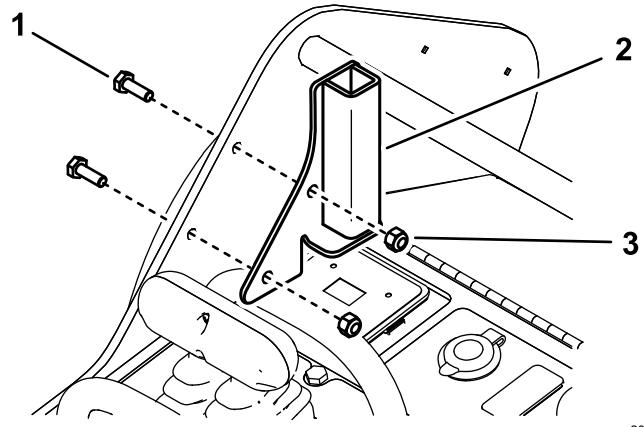

Figure 7
3. Install the left shield bracket on the left frame using 2 bolts (1/4 x 3/4 inch) and 2 locknuts (1/4 inch) as shown in Figure 7.
4. Install the right shield bracket on the right frame using 2 bolts (1/4 x 3/4 inch) and 2 locknuts (1/4 inch), similar to Figure 7.